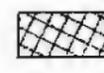

Figure S11-3
Everflex roof trim – To fit (see fig. S11-3)
Refer to figure S11-3, inset A.
34. Apply Boscoprene 2402 adhesive (parts 1 and 2) to both 'A' posts, up to approximately 10 cm (4.0 in) from the base of each post. Also apply the adhesive to the corresponding Everflex material (see fig. S11-3, inset H). Allow the adhesive to 'flash' dry. Then, keeping the material taut, press it firmly into position on the 'A' posts; also around the sides of the windscreen and front door apertures. The hardwood grooving tool will assist during this operation.